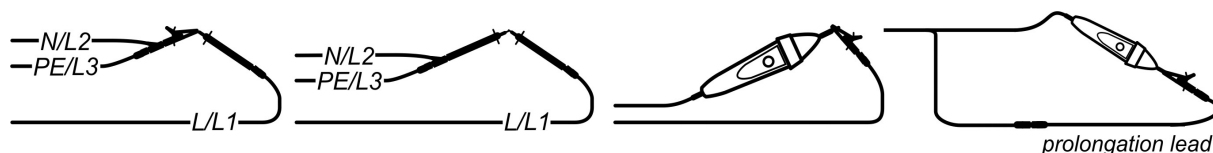

Figure 5.13: Shorted three-wire test cable and optional "Commander" test probe (044155)
- ❑ Connect the test cables to the installation tester and short-circuit the test cables (see figure 5.13.)